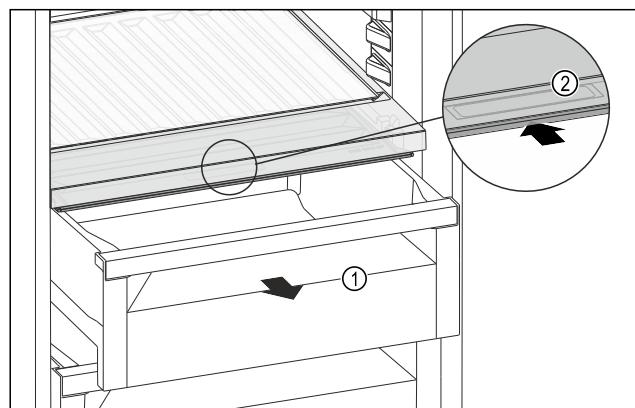

Fig. 115
- ▶ Pull out the drawer *Fig. 115 (1)*.
- ▶ Grip the handle recess *Fig. 115 (2)* on the lid while pulling the lid backward at the same time.